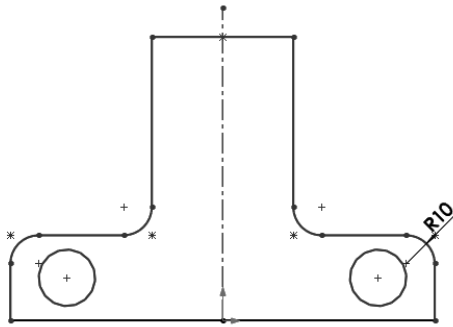

Figure 3-20 Sketch after creating the fillets
- Apply fillets, refer to Figure 3-20.
- Choose the **OK** button twice from the **Sketch Fillet PropertyManager** to exit from it. The sketch after creating the fillets is shown in Figure 3-20.